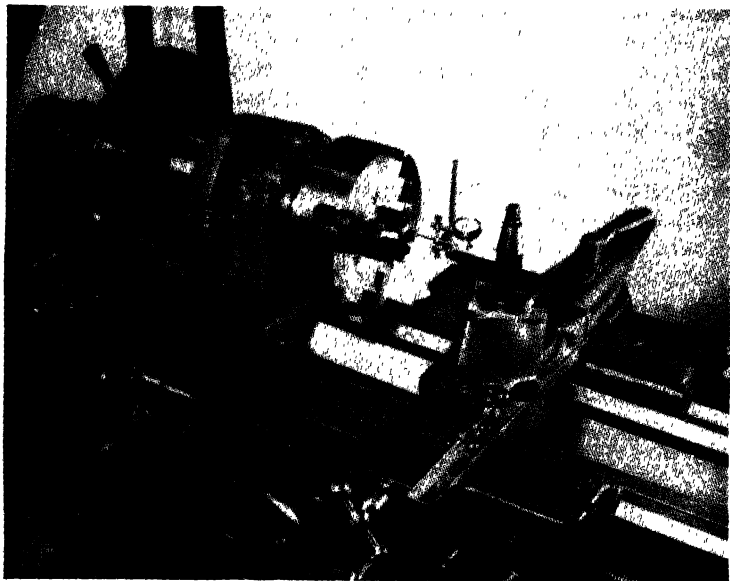

**Fig. 15-12.** Indicator method for testing work for on-center position. (*The Shell Oil Company*)
*Dial Indicator Method* (Fig. 15-12). A dial indicator makes possible the greatest accuracy in checking the on-center position of a workpiece. This is the case because any variation from center is